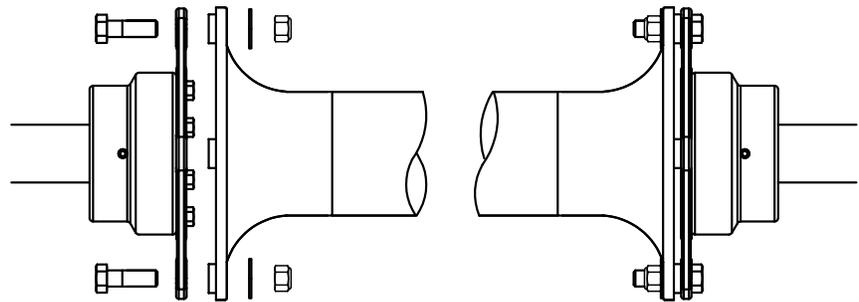

Figure 6
- Insert the four cap screws through the Geareducer end coupling assembly and flange. Ensure the cap screw head is towards the outside of the driveshaft assembly (i.e. hub side of driveshaft), as shown in **Figure 6**. Install the four washers and lock nuts and progressively tighten to the value specified in **Table 2**. Do not lubricate these fasteners.